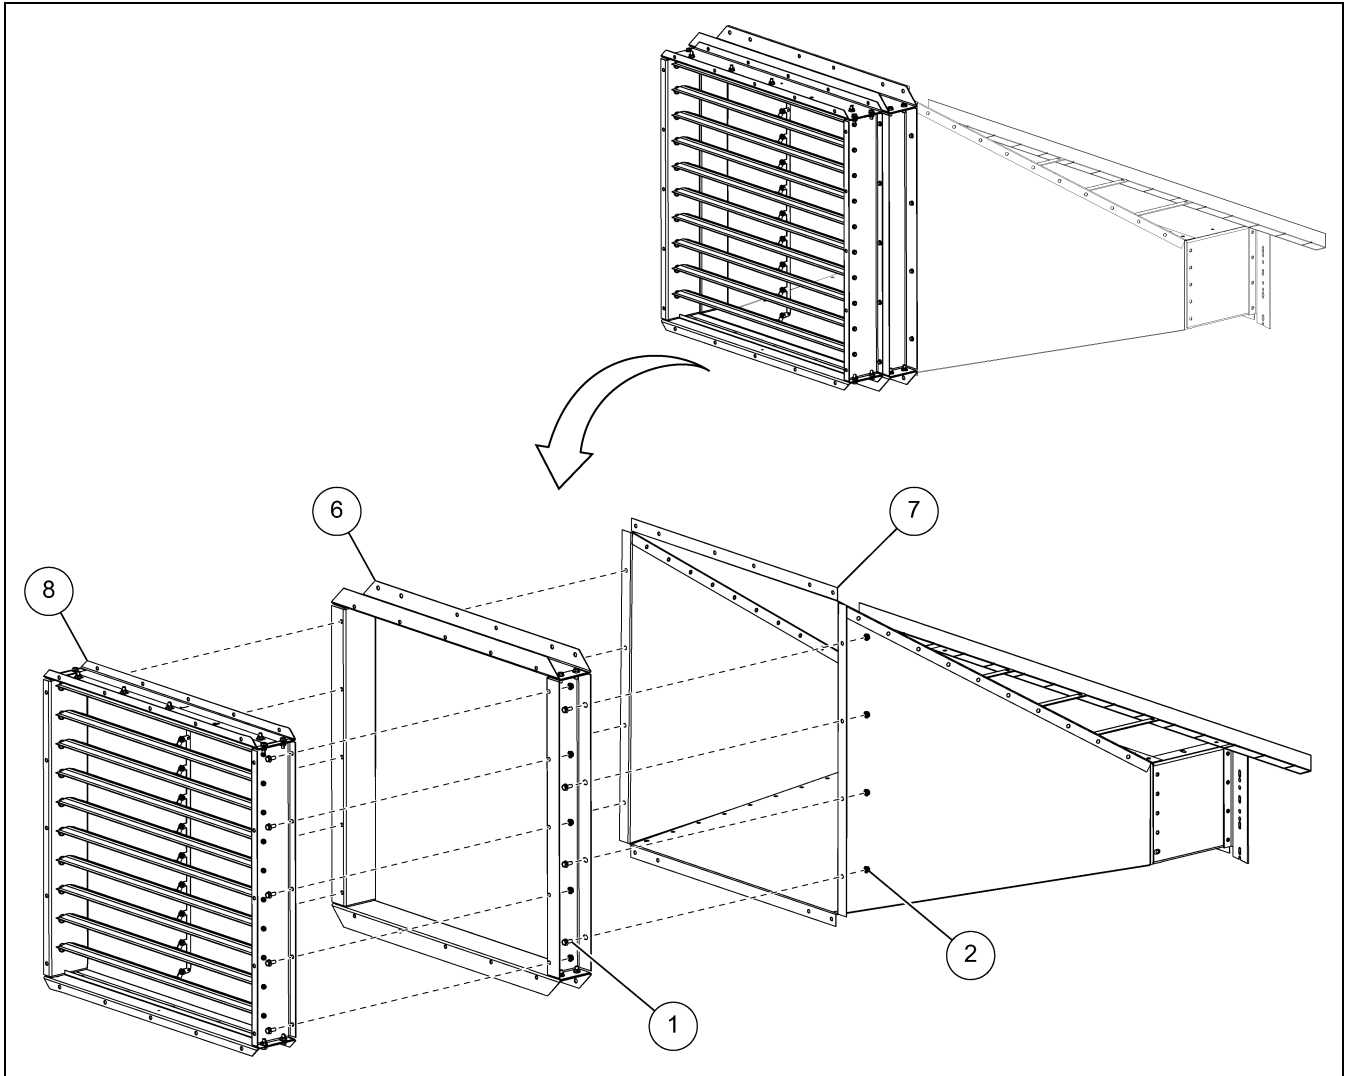

Figure 3 Assembling the Adapter and Shutter Assembly to the Transition Assembly
1. Align the flanges of the adapter assembly (6) with the flanges of the transition assembly (7) and install using 5/16" x 3/4" flange bolts (1) and 5/16" flange nuts (2).
2. Align the flanges of the shutter assembly (8) with the flanges of the adapter assembly (6) and install using 5/16" x 3/4" flange bolts (1) and 5/16" flange nuts (2). *(See Figure 3.)*